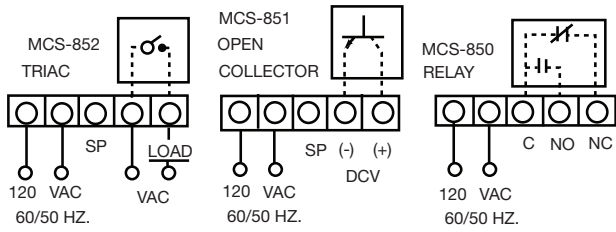

Figure 2
1. Connect the output wires to the proper terminals. See Typical Terminal Wiring, Figure 2.